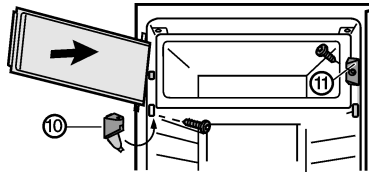

Fig. 7 *
- ▶ Fit the closing element Fig. 7 (11)*.
- ▶ Fit the turn hinge Fig. 7 (10) and fold the cover.*